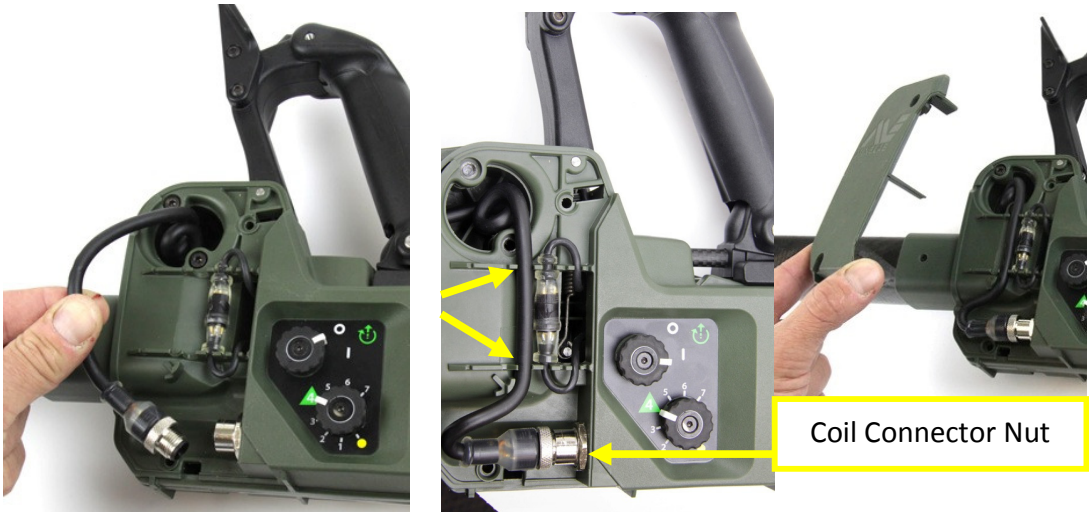

Figure 18: Connecting Coil Cable and Fitting Hinge Cover
- Attach the coil connector to the socket and tighten the coil connector as tight as possible with fingers. Figure 18.